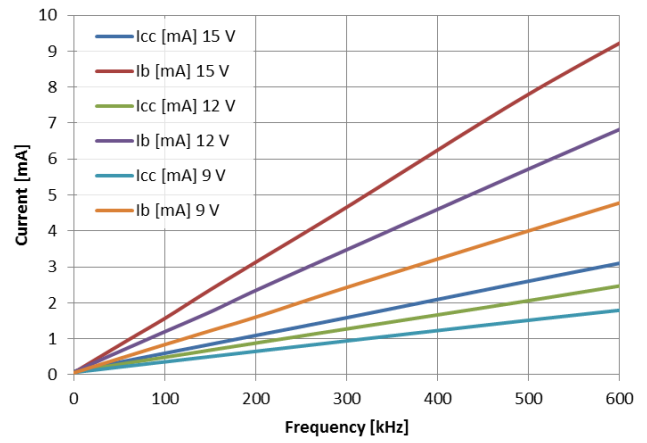

Figure 26. ICC and IB Current Consumption vs. Frequency
1. Power loss of device (except drivers) while switching at appropriate frequency (see Figure 26) is equal to